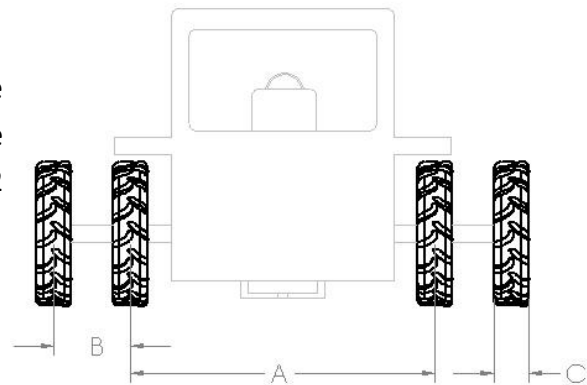

Figure 4-2: Tire Spacing
4.1.2 Tire Spacing and Inflation: Tires should be inflated to the manufacturer's specification. See Section 3.3, Traction, for more information. Figure 4-2 shows the appropriate tire spacing.